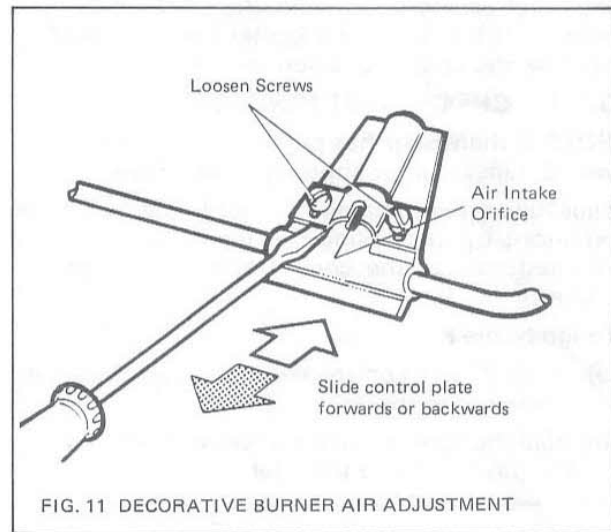

FIG. 11 DECORATIVE BURNER AIR ADJUSTMENT
3.1.2.1. DECORATIVE FLAME ADJUSTMENTS (fig 11)